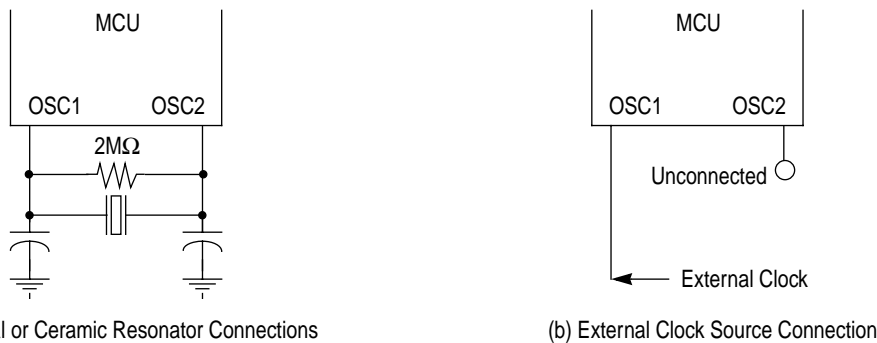

Figure 1-3. Oscillator Connections
1. A crystal as shown in **Figure 1-3(a)**
2. A ceramic resonator as shown in **Figure 1-3(a)**
3. An external clock signal as shown in **Figure 1-3(b)**
The circuit in **Figure 1-3(a)** shows a typical oscillator circuit for an AT-cut, parallel resonant crystal. The crystal manufacturer's recommendations should be followed, as the crystal parameters determine the external component values required to provide maximum stability and reliable start-up. The load capacitance values used in the oscillator circuit design should include all stray capacitances. The crystal and components should be mounted as close as possible to the pins for start-up stabilization and to minimize output distortion. An internal start-up resistor of approximately $2M\Omega$ is provided between OSC1 and OSC2 for the crystal type oscillator as a mask option.
In cost-sensitive applications, a ceramic resonator can be used in place of the crystal. The circuit in **Figure 1-3(a)** can be used for a ceramic resonator. The resonator manufacturer's recommendations should be followed, as the resonator parameters determine the external component values required for maximum stability and reliable starting. The load capacitance values used in the oscillator circuit design should include all stray capacitances. The ceramic resonator and components should be mounted as close as possible to the pins for start-up stabilization and to minimize output distortion. An internal start-up resistor of approximately $2 M\Omega$ is provided between OSC1 and OSC2 for the ceramic resonator type oscillator as a mask option.
An external clock from another CMOS-compatible device can be connected to the OSC1 input, with the OSC2 input not connected, as shown in **Figure 1-3(b)**. This configuration is possible **ONLY** when the crystal/ceramic resonator mask option is selected.